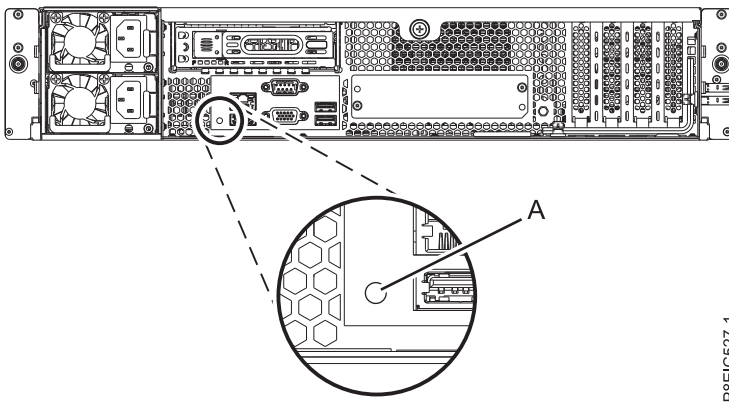

Figure 41. LEDs on the rear of the 8348-21C system
LEDs are also located on the rear of the system; see Figure 41. The identify LED is at (A).